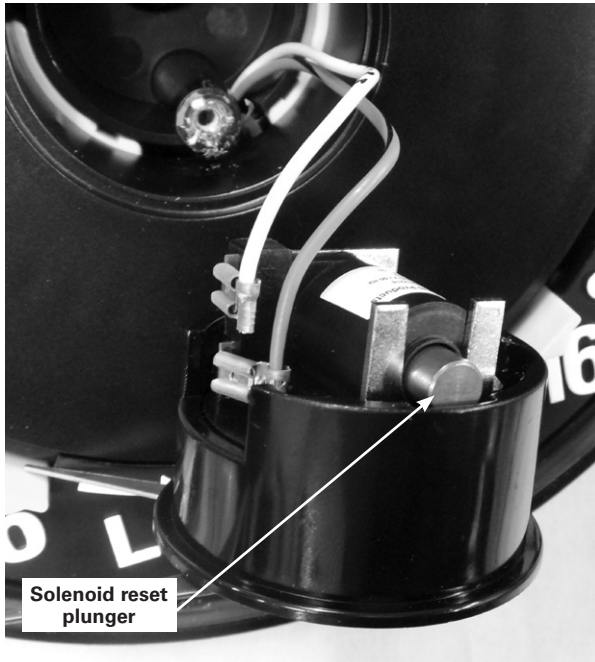
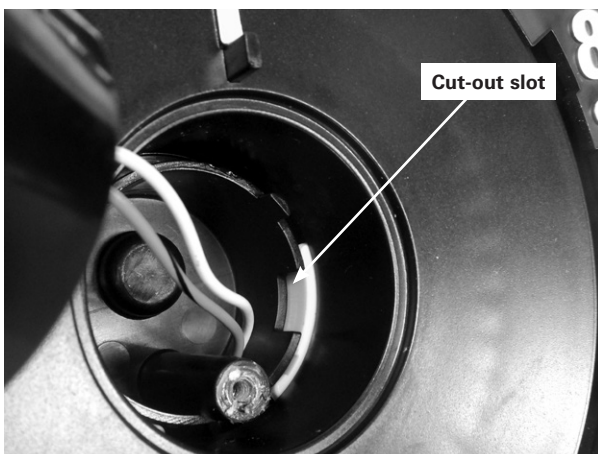

Figure 8. Solenoid reset plunger
Figure 9. Solenoid plunger cut-out slot
11. While aligning the DHR module for installation, align the solenoid plunger, (Figure 8), up with the cutout slot in the position indicator housing, (Figure 9), before inserting the module.